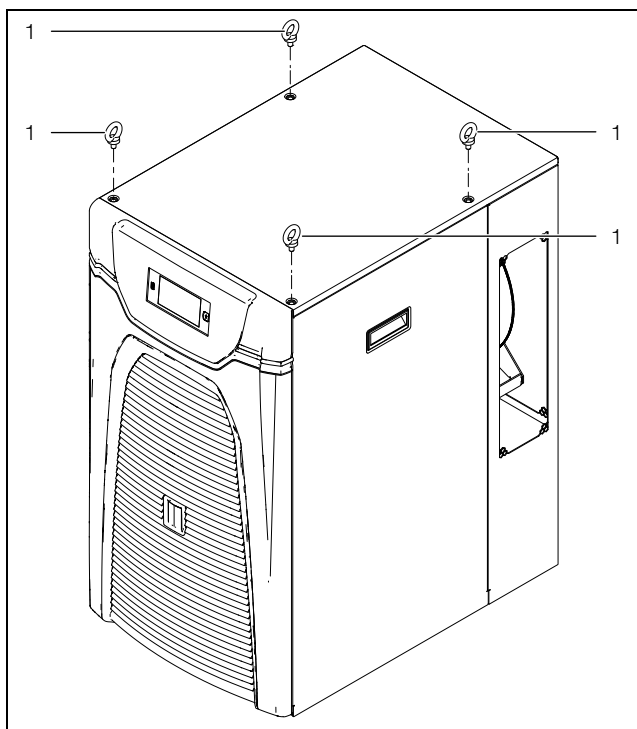

Fig. 27: Eyebolt for transportation (3319100 and 3320200)
- Only transport the chiller on the pallet supplied with the chiller or with the eyebolt provided (fig. 27, item 1). After transportation, the eyebolts are exchanged for the posidrive raised countersunk screws provided. EPDM panels to protect the paint are included in the bag of accessories.